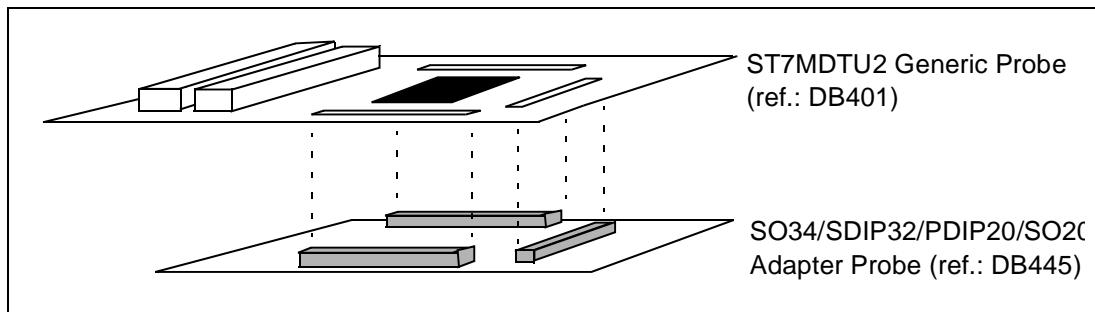

Figure 13: Connecting the SO34/SDIP32/PDIP20/SO20 probe to the ST7MDTU2 generic probe
- 2 Connect the SO34/SDIP32/PDIP20/SO20 Adapter Probe (ref.: DB445) to the ST7MDTU2 Generic Probe (ref.: DB401) (see *Figure 13* for a close-up view of this step).
- 1 Connect the SO34/SDIP32/PDIP20/SO20 Adapter Probe (ref.: DB445) to the ST7MDTU2 Generic Probe (ref.: DB401) (see *Figure 13* for a close-up view of this step).
- 3 Connect the SO34/SDIP32/PDIP20/SO20 Adapter Probe (ref.: DB445) to the ST7MDTU2 Generic Probe (ref.: DB401) (see *Figure 13* for a close-up view of this step).